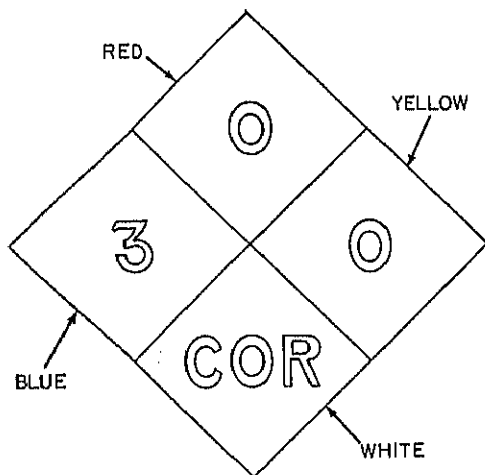

Figure 2B.--Hazard identification symbol.
Information for items 2-40 through 2-42. 2-42: You are loading cargo, much of which are class A and B explosives. All of this ammunition is being stowed in #1 hold which is sprinkler-protected. You notice a boxed carboy (bottle) stenciled with the hazard identification symbol shown in figure 2B.